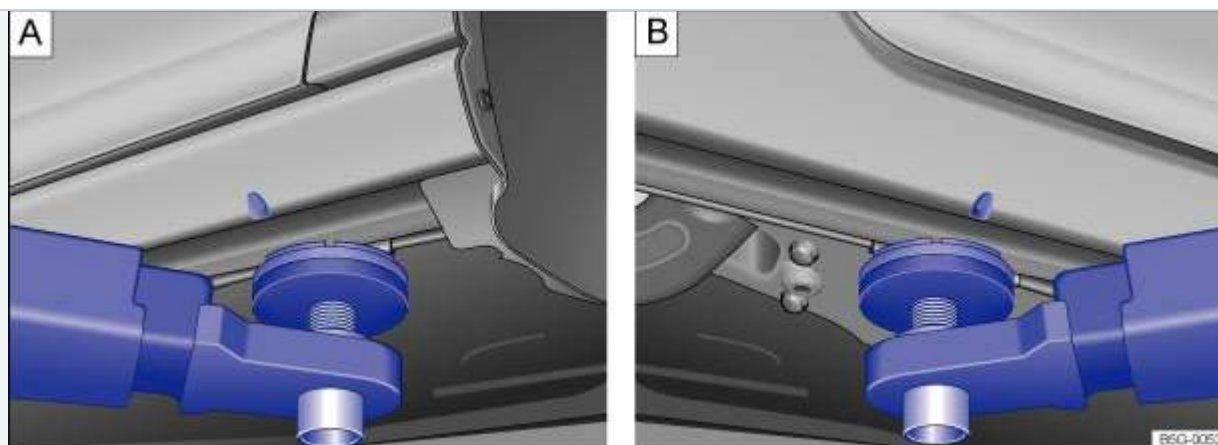
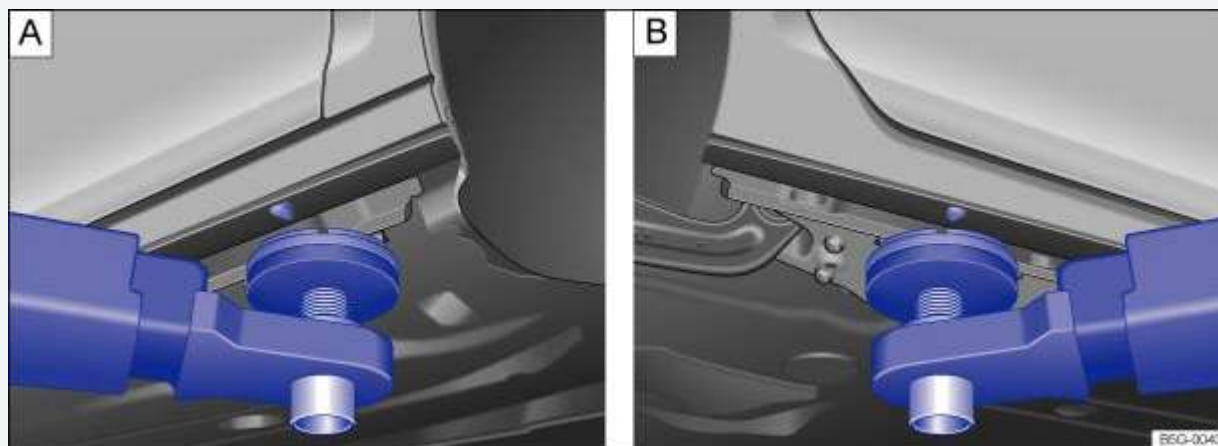

Fig. 206 : Lifting point at the front. : Lifting point at rear for lifting the vehicle using a workshop hoist or floor jack (Golf).
Fig. 207 : Lifting point at the front. : Lifting point at rear for lifting the vehicle using a workshop hoist or floor jack (Golf GTI, Golf R).
The vehicle may only be raised at the lift points shown in the illustration ⇒ Fig. 206 or ⇒ Fig. 207. If the vehicle is lifted at different points, vehicle damage ⇒ and serious injuries may occur ⇒ .
- Always lift your vehicle only at the designated lift points shown in the illustration ⇒ Fig. 206 or ⇒ Fig. 207. Not using the designated lift points can cause the vehicle to fall off the floor jack when heavy parts such as the engine or transmission are removed.